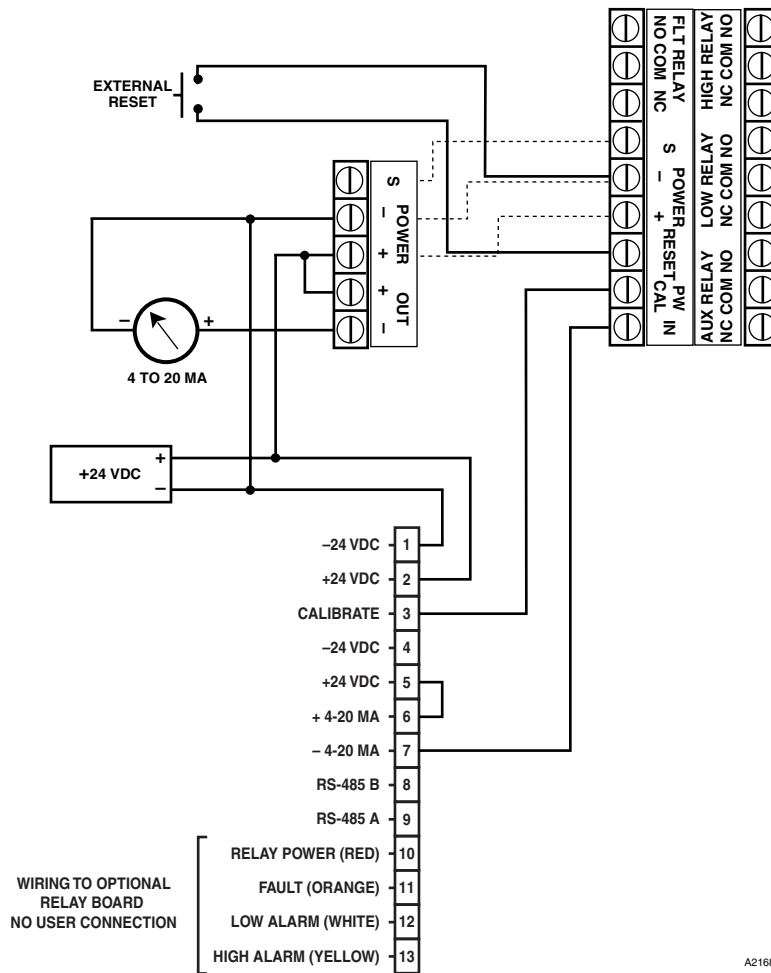

Figure 10—A Typical System, Infiniti Transmitter with a PIRECL PointWatch Eclipse Detector and Non-Isolated Current Output
- Figure 10 — A Typical System, Infiniti Transmitter with a PIRECL PointWatch Eclipse Detector and Non-Isolated Current Output